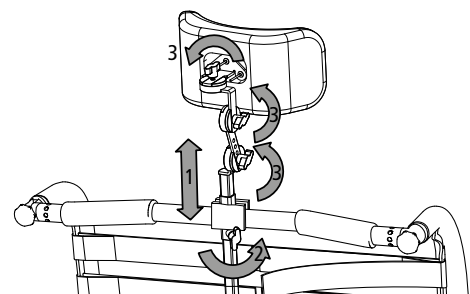

Fig. 48
1. Slide the headrest to the desired height and position (1, Fig. 48).
2. Tighten the wing screw (2, Fig. 48) to lock the headrest.
1. Loosen the wing screw (2+3, Fig. 48).
3. Tighten the wing screws again (2+3, Fig. 48).